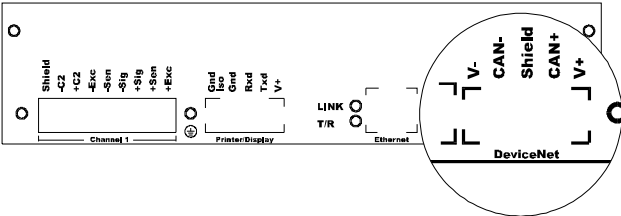

FIG. 37: REAR PANEL/DEVICENET CONNECTION
- Step 2. Connect the cable connector to the DeviceNet connector at the rear panel. (See Fig. 37)